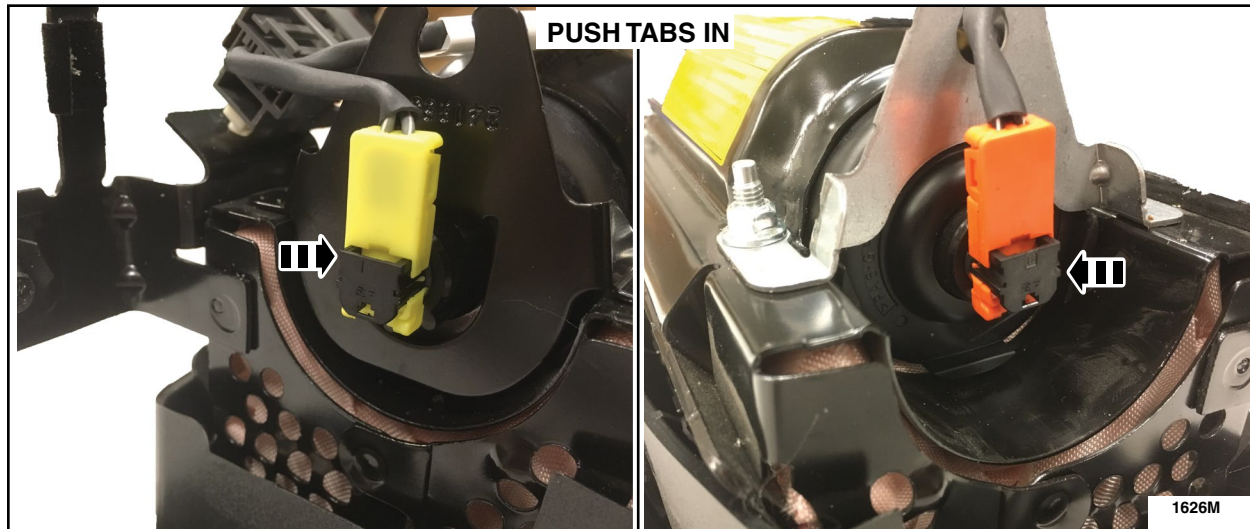

FIGURE 10
13. Align the T-shape index on both the wiring harness electrical connector and the airbag inflator. Install the *new* wiring harness onto the passenger airbag module and connect to both sides of the inflator and fully seat the tabs. See Figure 10.